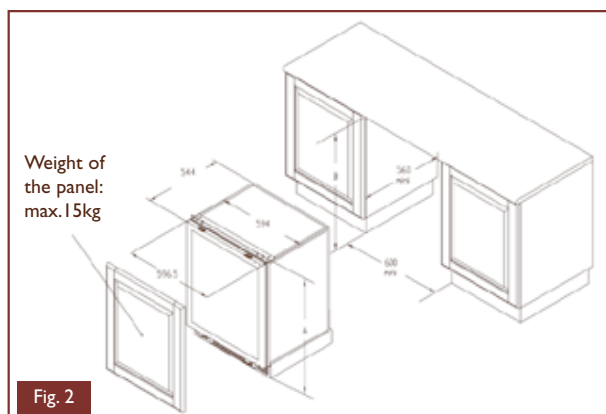

Fig. 2
- Dimensions for a technical door (Fig. 2) :